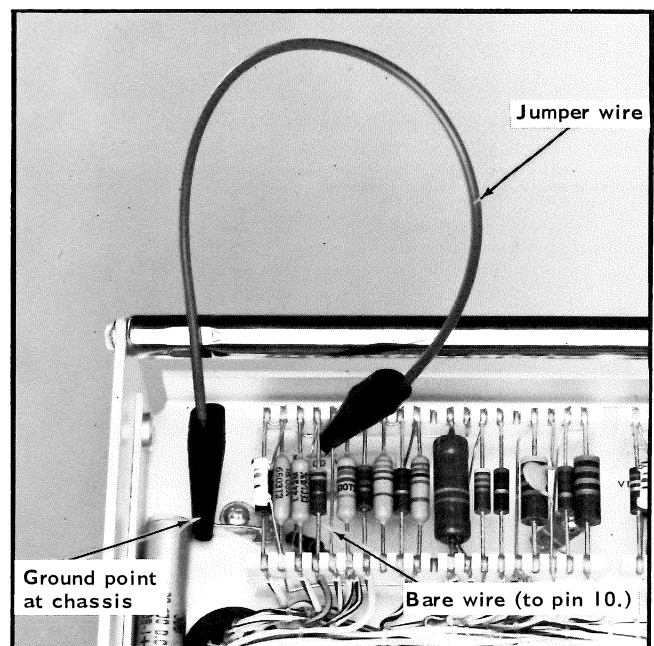

Fig. 5-10. Illustrating a convenient method of grounding connecting plug pin 10.
- Change the TEST FUNCTION switch to GAIN SET and connect pin 10 of the interconnecting plug to chassis ground with a short jumper. See Fig. 5-10.